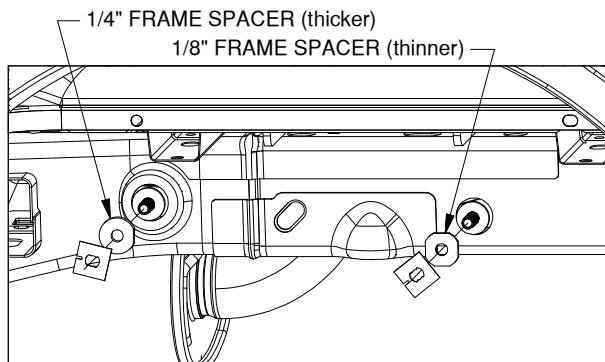

Figure C3: View of driver side wheel well.
2. **Install frame spacers.** Install a frame spacer into each hole. The 1/8" (thinner) frame spacer will install in the rear hole in the frame and the 1/4" (thicker) frame spacer will install in the forward hole. To prevent the carriage bolts from falling into the frame. Thread a 1/2" retainer onto each bolt until it is snug against the frame, see Figure C3. Repeat steps 1 & 2 on the other side of the truck.